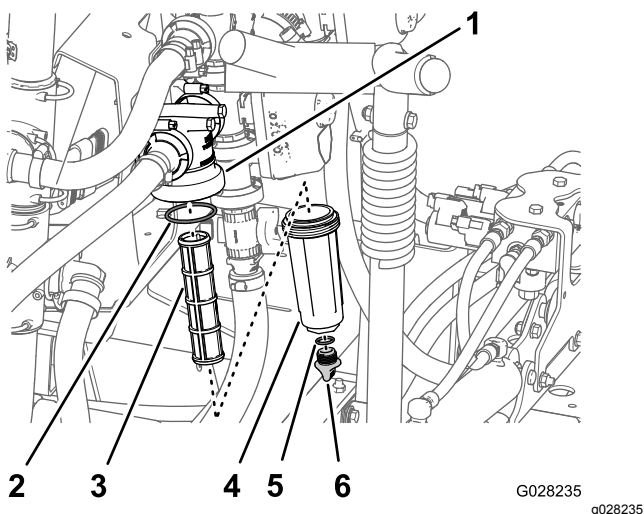

Figure 97
2. Align a drain pan under the pressure filter (Figure 97).
3. Rotate the drain plug counterclockwise and remove it from the bowl of the pressure filter (Figure 97).
4. Rotate the bowl counterclockwise and remove it from its filter head (Figure 97).
5. Remove the old pressure-filter element (Figure 97).
6. Check the O-ring for the drain plug (located inside the bowl) and the O-ring for the bowl (located inside the filter head) for damage and wear (Figure 97).
7. Install the new pressure-filter element into the filter head (Figure 97).
8. Install the bowl onto the filter head and tighten by hand (Figure 97).
9. Install the plug into the bowl and tighten by hand (Figure 97).